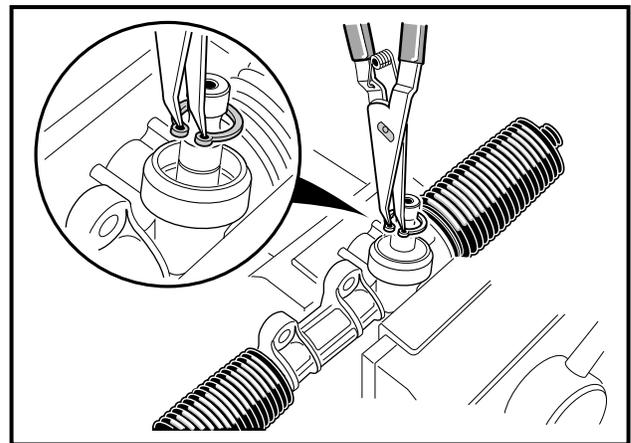

Figure 7-8 Remove Snap Ring
9. Remove the internal snap ring (11) (**Figure 7-13, Page 7-11**). See also **Figure 7-8, Page 7-7**.